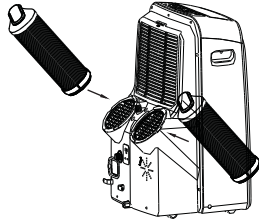
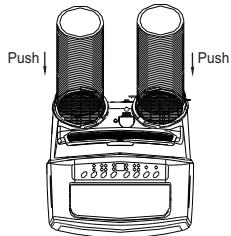

Fig. 17a
Fig. 18
2. Install the flexible Exhaust hose as depicted in Fig. 17a&b. Then push the hook of the Exhaust hose into the hole seat of the unit in Fig. 18.